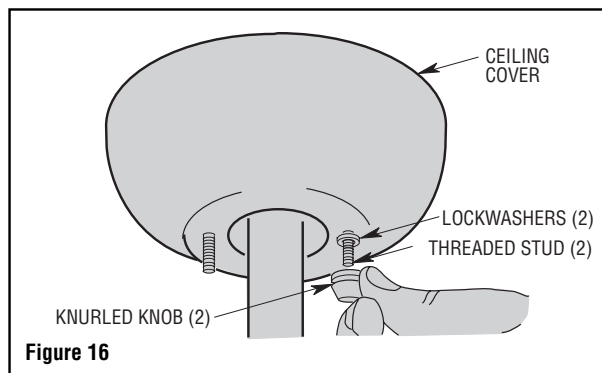

Figure 16
4. Lift the ceiling cover up to the threaded studs and turn until studs protrude through the holes in the ceiling cover (Figure 16).
5. Secure the ceiling cover in place by sliding lockwashers over the threaded studs and installing the two knurled knobs (supplied). (Figure 16.) Tighten the knurled knobs securely until the ceiling cover fits snugly against the ceiling and the hole in the ceiling cover is clear of the downrod. Your fan is now wired to be turned on and off from the fan switch.